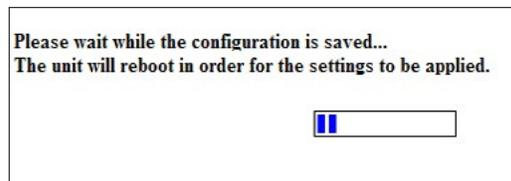

Figure 16: Change Password Window
11.) The *Change Password Window* will appear. See **Figure 16**. Type in a new password in both fields—the New Password field and Retype Password field and *press* **<OK>**. A message will appear if the password change is successful. Make sure to write the new password down.